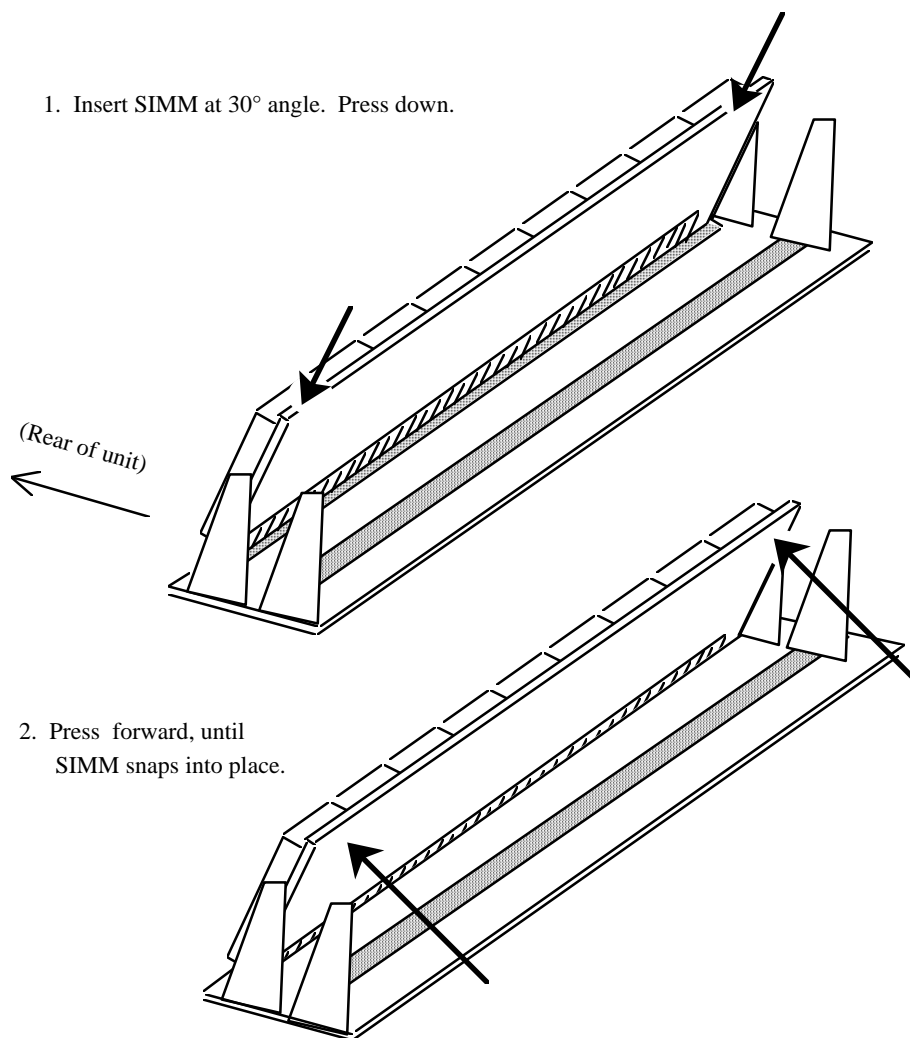

Figure 39 - Inserting SIMM into Socket
7. Hold the SIMM by its edges, with the memory chips facing the front of the MAXserver, then insert the SIMM into the slot. Angle the top of the SIMM (about 30°) toward the rear of the MAXserver (see Figure 39).